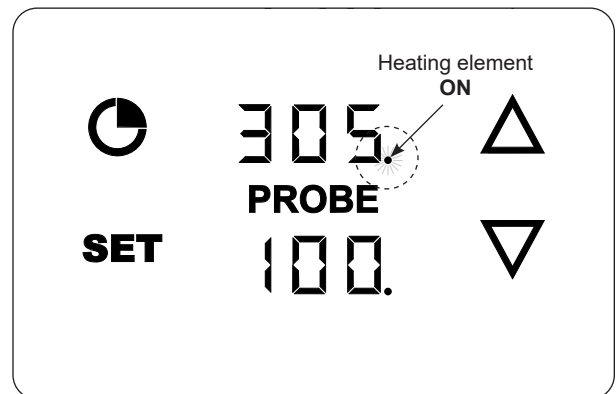

Fig. 30-2 Heating element ON
- The **dot** next to the grilling temp. indicates that the heating element is **on**. The **dot** turns on and off intermittently as the element maintains the set temp. See Fig. 30-2.